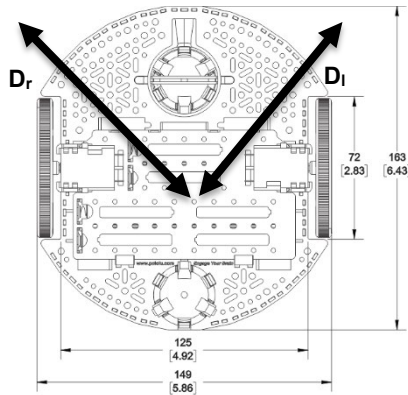

Figure 1. Define distance measured from a central point on the robot.
- If your robot has IR distance sensors, then you could design a robot that travels down the middle of the road. Assume the left and right IR sensors are measuring distance to the left and right walls, see Figure 1. For this controller we define error as the difference between distance to left and right. **Error** = **D_l**-**D_r**. Set the duty cycle of one wheel to a constant, and have the output of the controller determine the duty cycle of the other wheel.